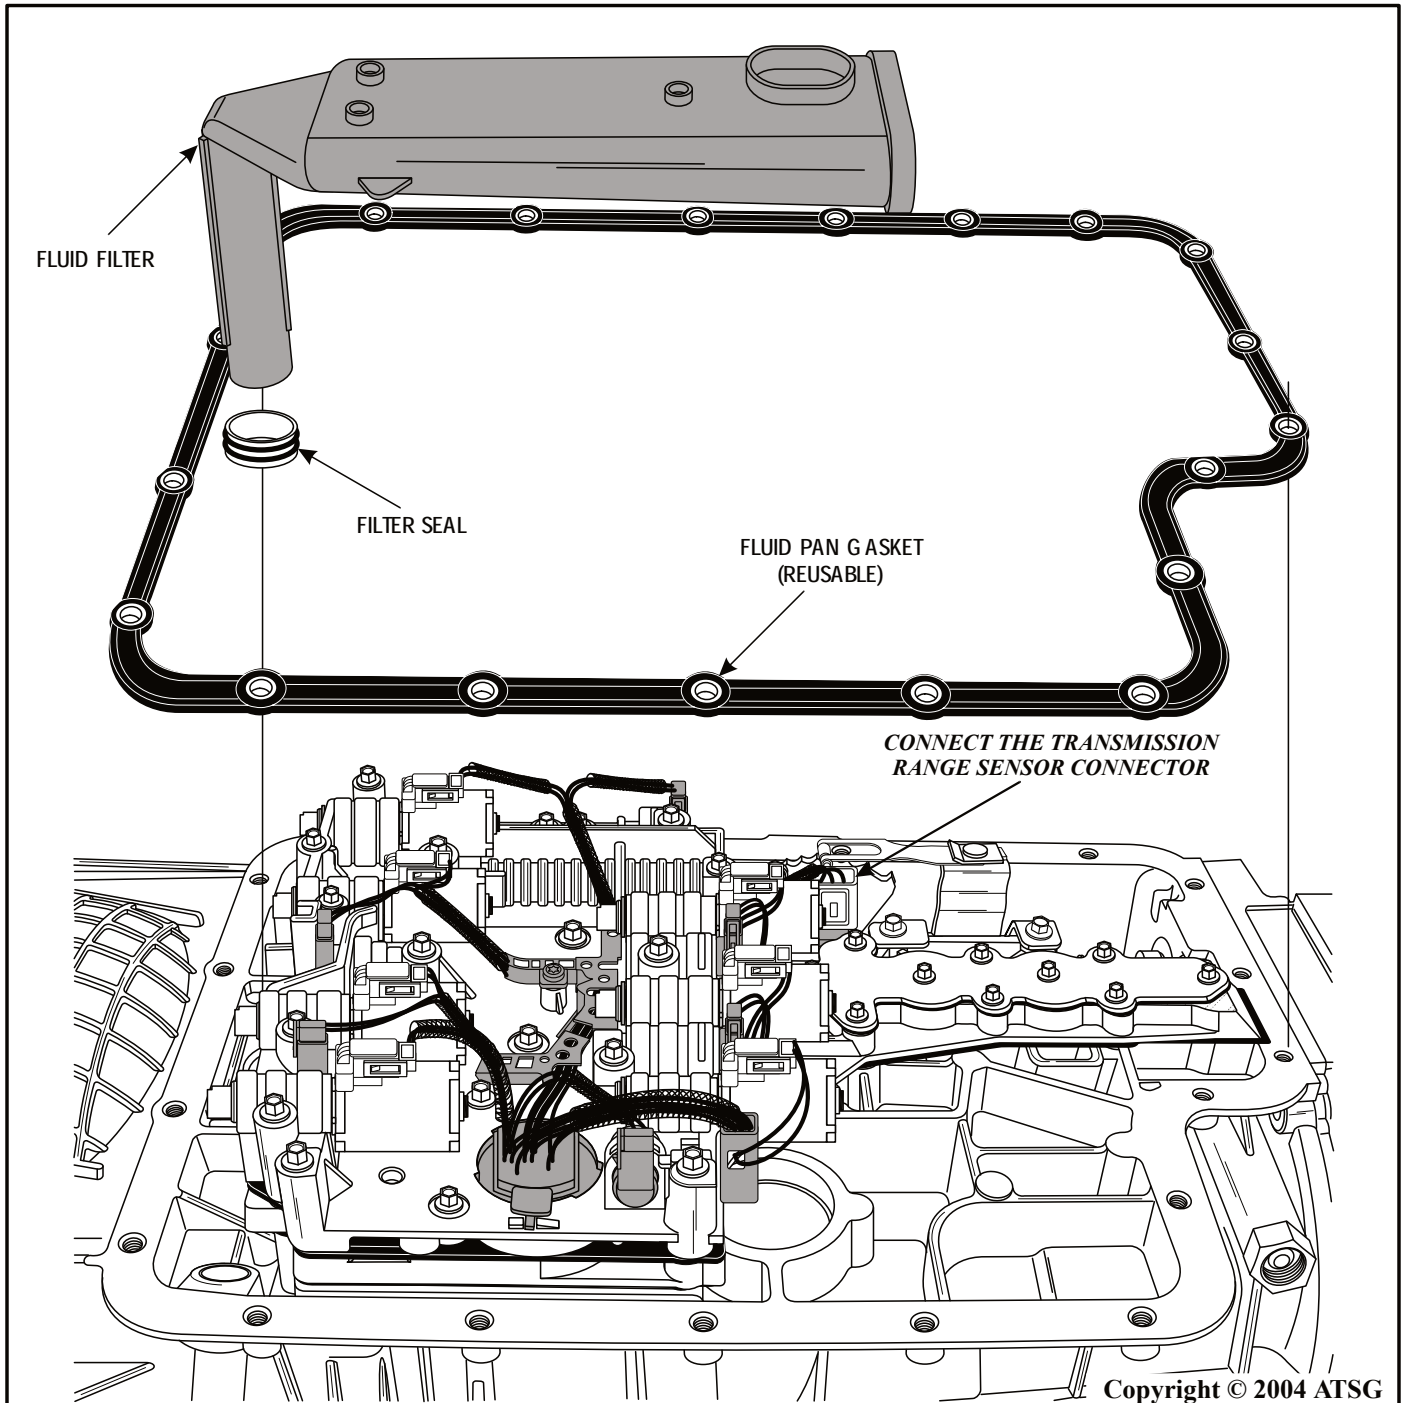

Figure 182
38. Install the transmission range sensor connector, as shown in Figure 182.
39. Install a new pan gasket on the case surface, as shown in Figure 182.
40. Install a new fluid filter and seal, as shown in Figure 182.